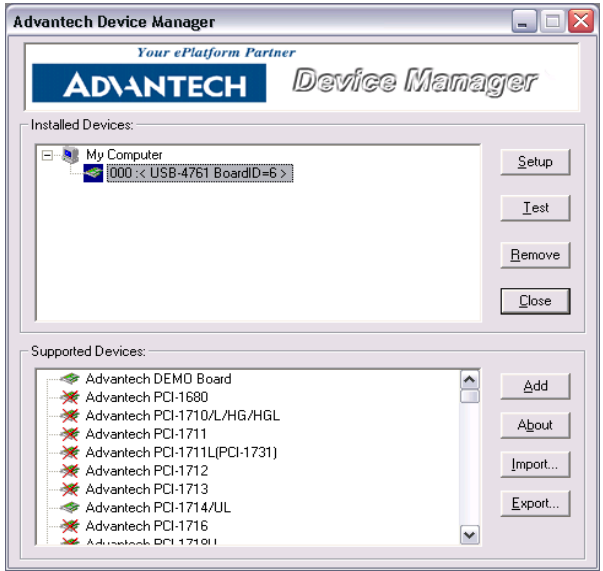

Figure 2.4: Device Manager Dialog Box
*Note: If your module is properly installed, you should see the device name of your module listed on the Device Manager tab. If you see your device name listed, but marked with an exclamation sign “!” (Fig. 2-4), it means your module has not been correctly installed. In this case, remove the module from Device Manager by selecting its device name and press the **Remove** button. Then go through the driver installation process again.*